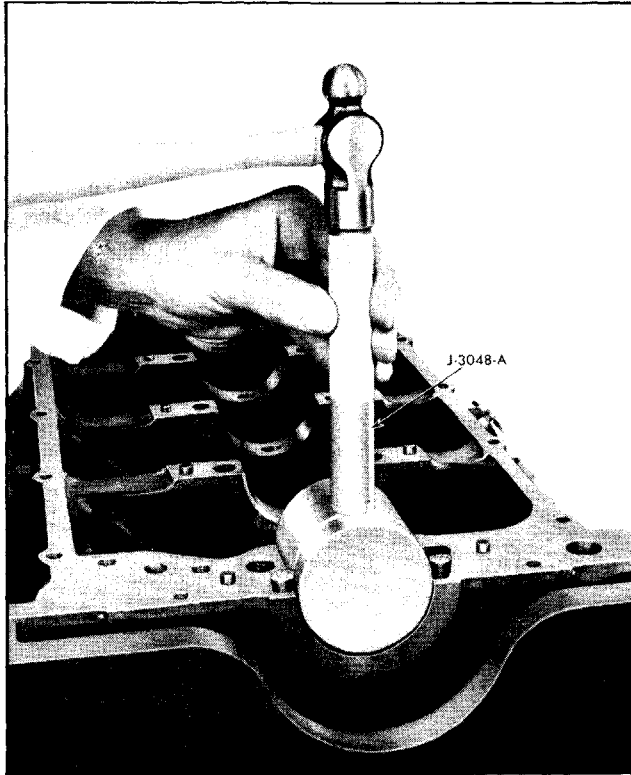

Fig. 6-72 Compressing Seal in Block
a. Place seal in groove in block and pack tightly with hammer and tool J-3048-A (Fig. 6-72).